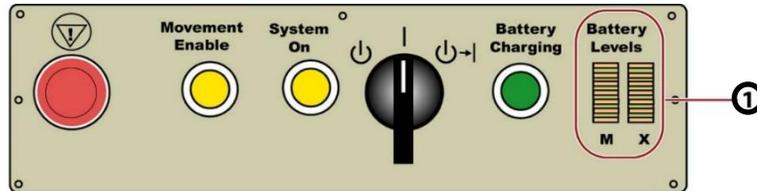

FIGURE 1
Battery Level Indicators: On the IAS Power Control Panel shown in Figure 1, the two columns of yellow LED lights (①) indicate the battery levels for the motion batteries (M) and the X-ray batteries (X). See “Battery Charge Level Indicators” in the user manual for more information about battery charge levels represented by the scrolling LEDs. See “User Performance Checks” in the user manual to ensure proper operation of the machine.